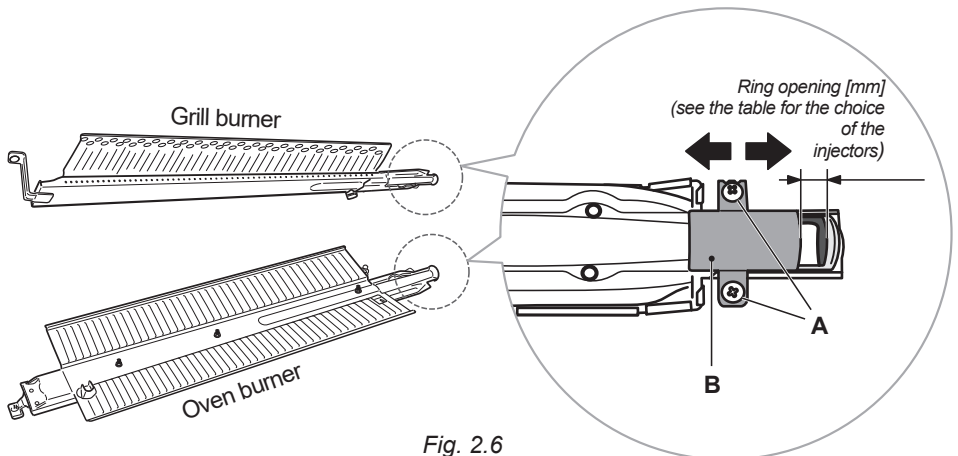

Fig. 2.6
- Using a cross-head screwdriver, slacken the screws “B” securing the air flow regulation collar “A” (fig. 2.6) and move the collar forward or backward to increase or reduce the air aperture in accordance with gas type and the indications in the ‘Table for the choice of the injectors’.